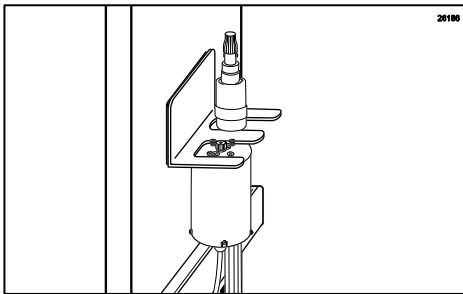

Figure 77
30. Replace the cap and hang the Assembly onto the Accessory Hanging Bracket. (See Figure 77.)